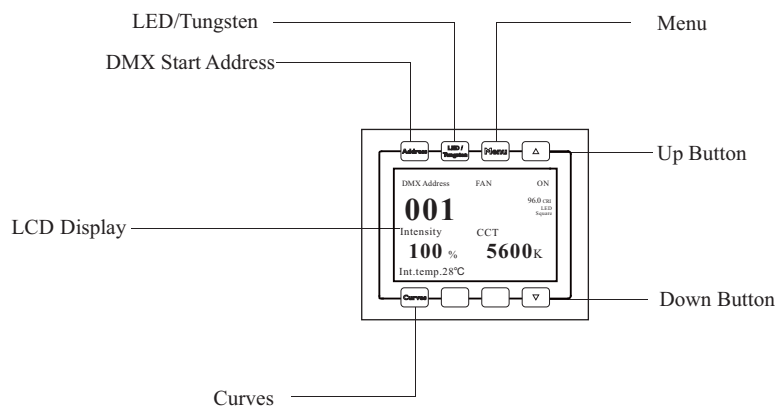

Figure 8: LCD Display and Menu System
- Step 2. Press the desired button (as shown in **Figure 8**) to access the direct function keys